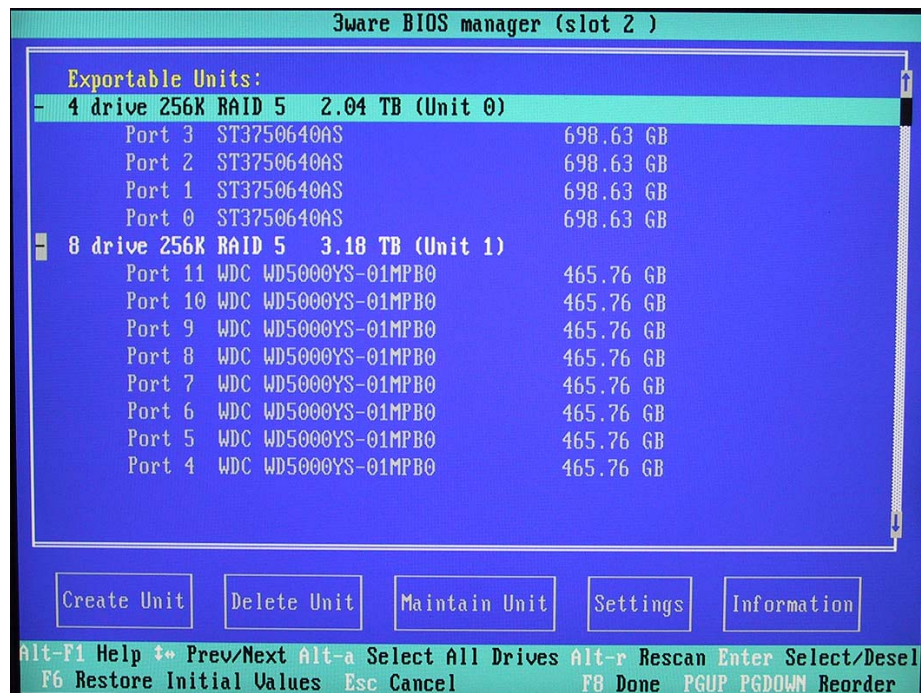

Figure 5-9
- 6) Check the disk order. It should appear similar to that shown in Figure 5-9 with the internal 4-drive RAID array shown on the top and the external 8-drive array on the bottom. (Only the two main unit entries – Unit 0 and Unit 1 – would be displayed by default. Each of these entries would have a '+' symbol next to it. For the purposes of these discussions, Figure 5-9 shows these units as being expanded to reveal the disks forming the array.)
- 7) If the array order is not as shown in Figure 5-9, use the **PgUp** and **PgDn** keys on your keyboard to reorder the arrays and then follow the on-screen instructions to accept this change and exit the 3ware BIOS.